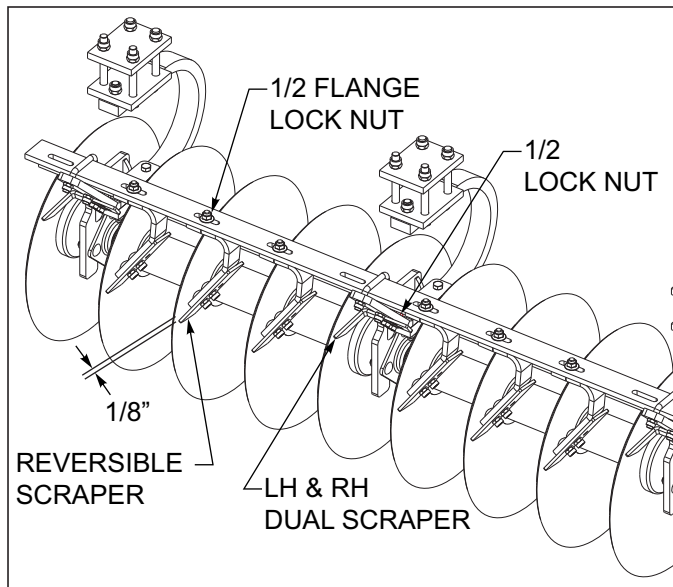

Figure 4-10: Scraper Adjustment
1. Rigid scrapers should be set initially as close to the disc blade as possible without rubbing (approximately 1/8") **See Figure 4-10**. A slotted hole at the top of each scraper is provided for individual adjustment. Loosen 1/2 flange lock nut for reversible scraper or 1/2 lock nuts for dual scrapers to slide scrapers to get the 1/8" spacing from disc blade. Scraper arms are made of spring steel. In wet conditions, the scraper may be set against the disc blade and can function as a spring-loaded scraper.